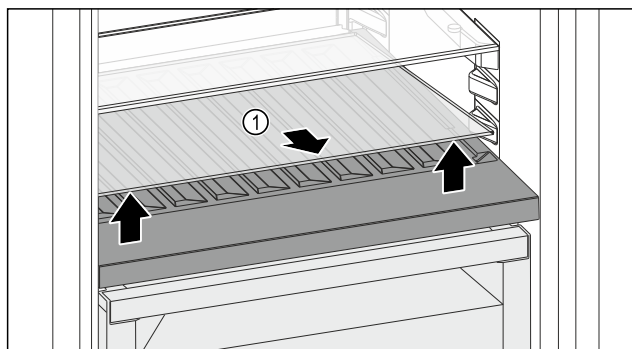

Fig. 149
- Lift the glass shelf Fig. 149 (1) at the front and remove.
- Store the glass shelf Fig. 149 (1) in a safe place outside the appliance.